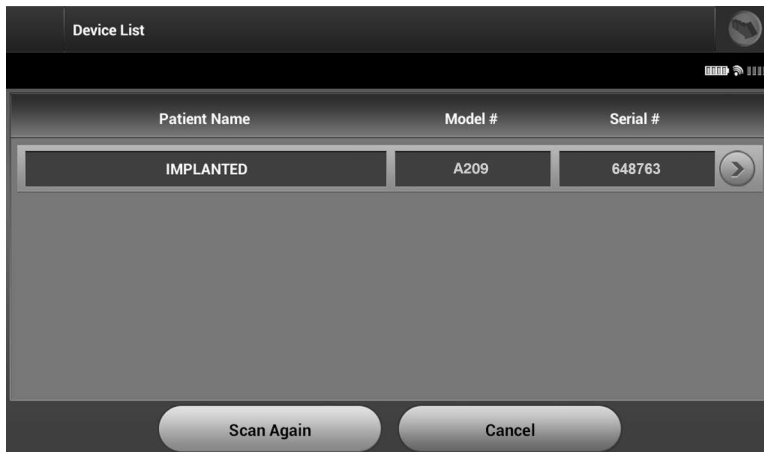

Figure 16: *Device List screen (scrollable list)*
2. When the scanning process is complete, a list of all pulse generators detected (up to 16) will be displayed on the Device List screen (Figure 16). The devices that are in Shelf mode will be displayed as "Not Implanted." Any devices that were previously taken out of Shelf mode are displayed either as "Implanted" or with the stored patient name.
Select the desired pulse generator from the Device List screen (Figure 16) to initiate the communication session.